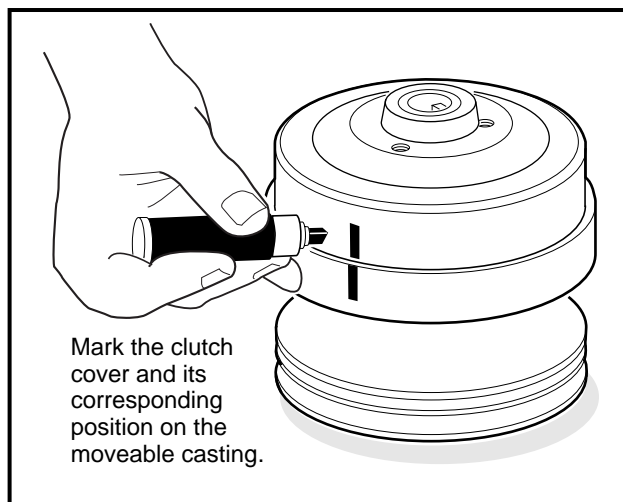

Figure 17-6 Mark Clutch Cover
- The drive clutch is balanced as an assembly. Before disassembly, make match marks on the clutch cover and on the moveable face assembly so they can be reassembled in the same positions (**Figure 17-6, Page 17-7**).
1. Make match marks on the clutch cover and on the moveable face casting (**Figure 17-6, Page 17-7**).